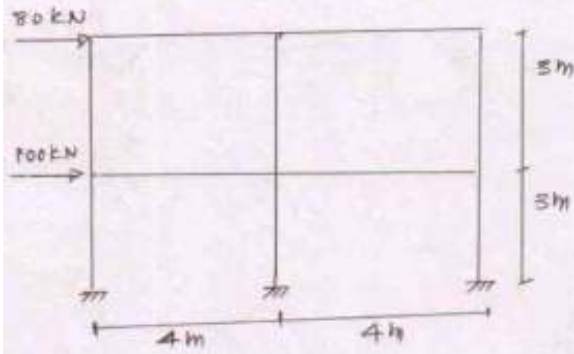

Fig: 2
Q.3 (a) Analyse the RC frame shown in Fig. 2 by any approximate method of analysis and draw the bending moment diagram only. Take c/s area of all the columns as constant. **07**